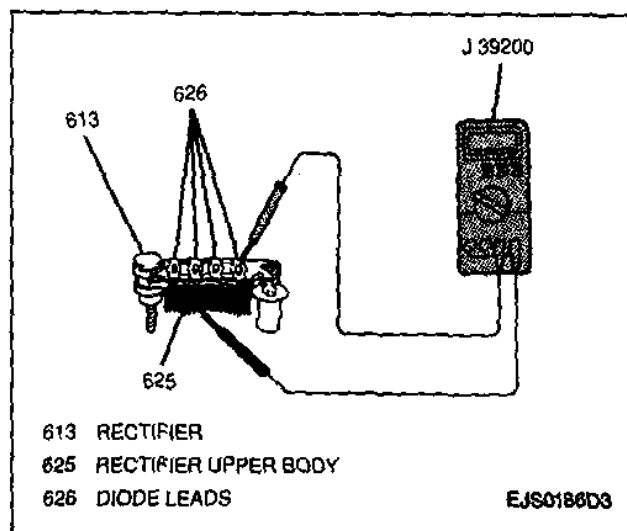

Figure 18—Measuring Rectifier Upper Body-to-Diode Lead Resistance
6. Resistance between rectifier upper body and each diode lead using the J 39200 (Figure 18). Reverse the probes and measure resistance again. If resistance is not less than 5 ohms in one measurement and greater than 5 ohms in the other measurement, replace the rectifier.